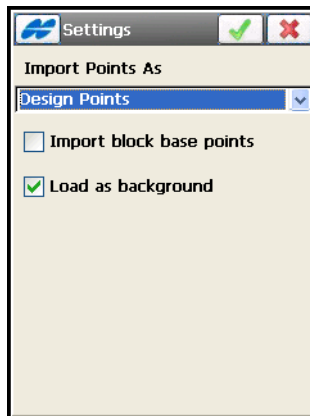

Figure 5-18. Settings
- **Settings** – opens a dialog to select desired styles to represent points and lines presented in the file being imported (see Figure 5-18 on page 5-15).
- **Settings** – pressing this button opens a dialog to select desired styles to represent points and lines (Figure 5-18 on page 5-15).
- **Settings** – opens the *Settings* screen to select point and line styles (see Figure 5-18 on page 5-15).